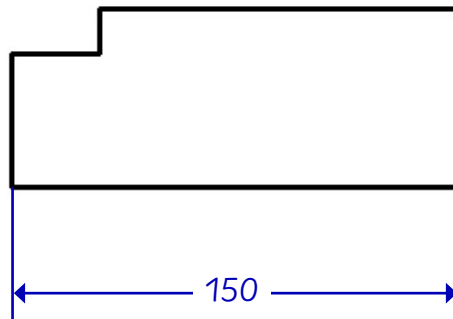

Fig. 6
- (b) A component has a length of 150 mm. Complete the drawing in **Fig.6**, using standard conventions, placing the following items in the correct location: